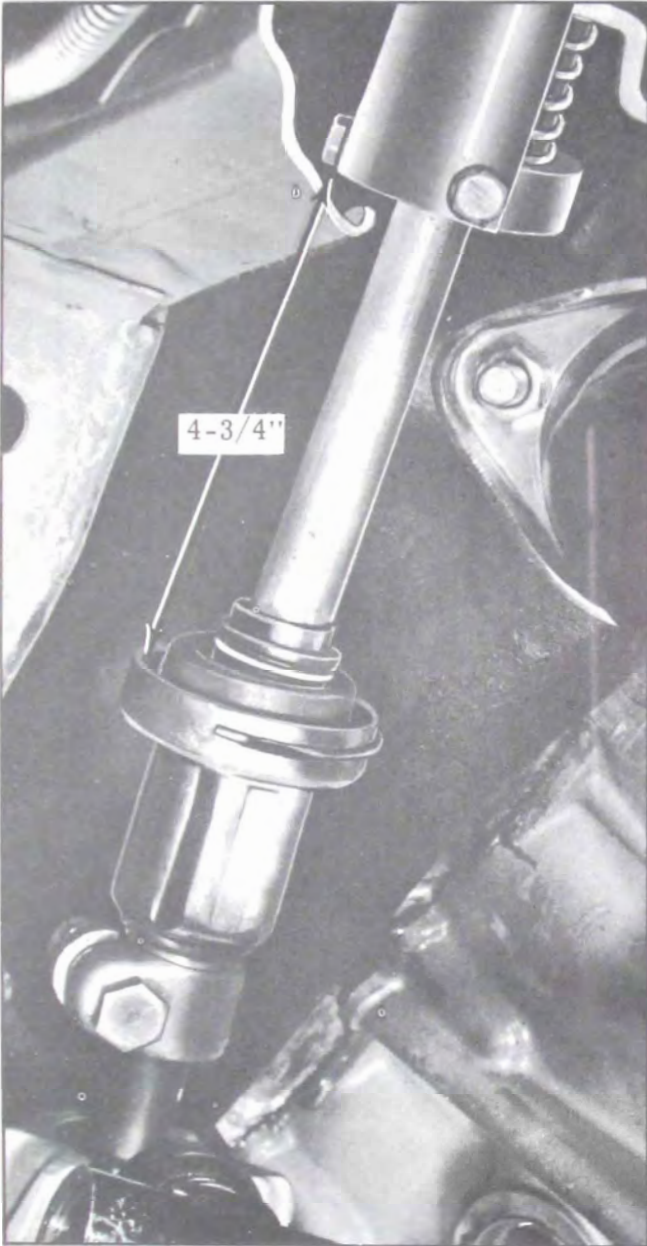

Figure 8-82—Correct Position of Mast Jacket to Lower Coupling
4. Check distance between edge of coupling and edge of mast jacket. See Figure 8-82. Measurement should be approximately 4-3/4". If necessary, loosen clamp that retains jacket to toe pan and reposition jacket.